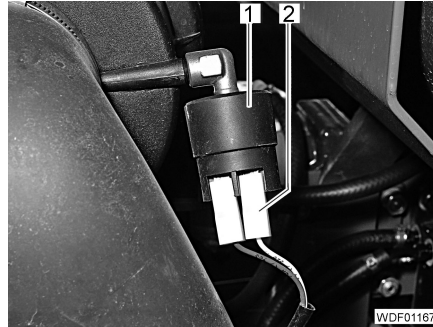

Fig. 508 Vacuum gauge
- Remove the 2 plugs (Fig. 508,2).
- Unscrew the vacuum gauge (Fig. 508,1).
- Connect the 2 connectors (Fig. 508,2) to the vacuum gauge.